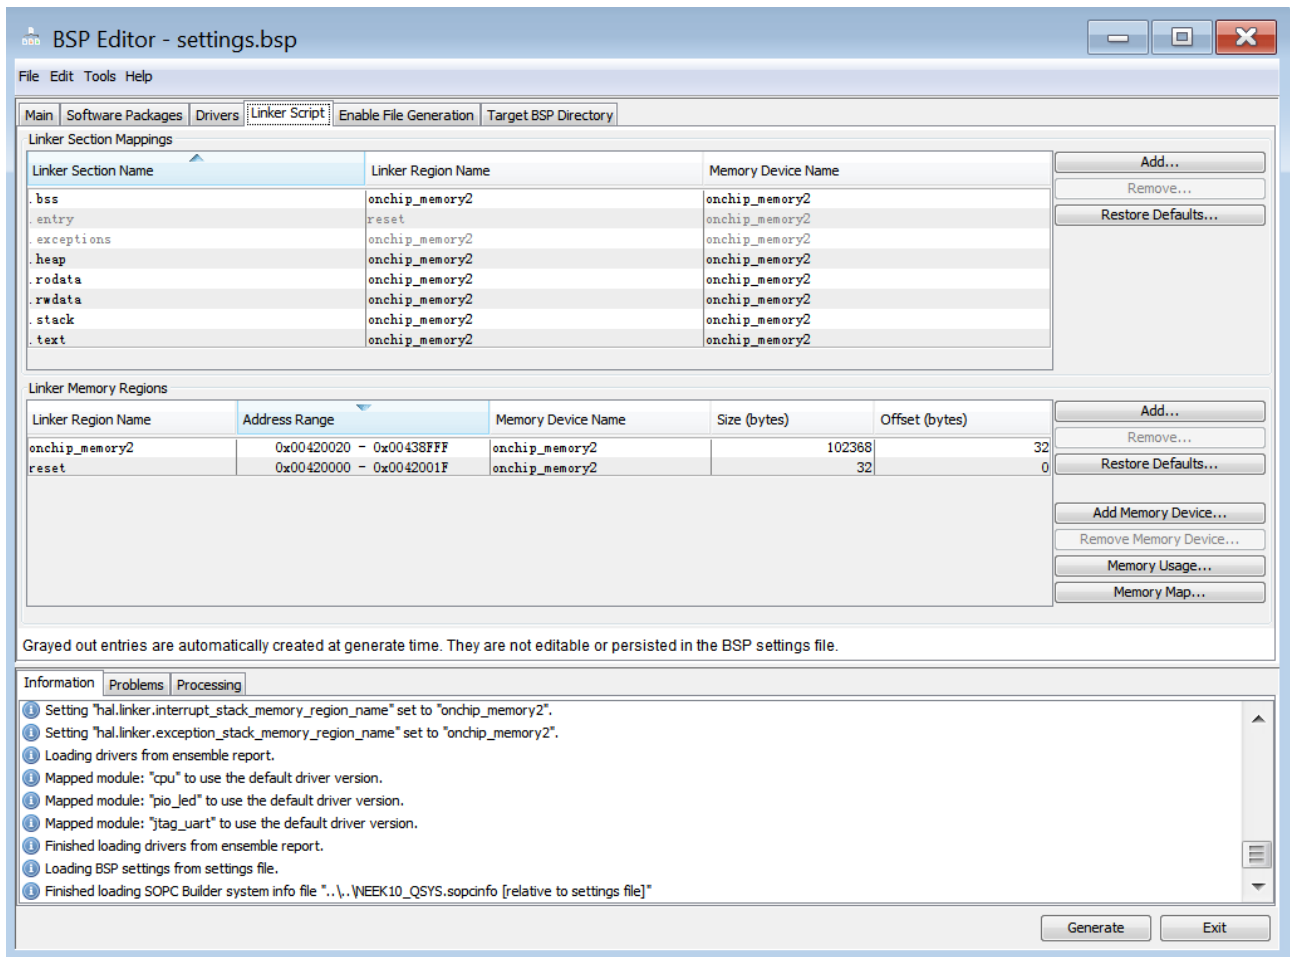

Figure 2-8 Configure BSP
4. Choose onchip_memory2 for all the memory options in the Linker Script box, as shown in **Figure 2-8**.